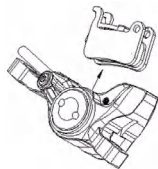
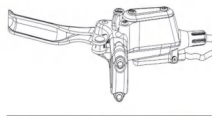

Figure 2-5 Removing/Assembling the Brake Pads and Accessories
Fig. 2-6 Brake oil reservoir is parallel to the ground
- ② Remove the wheel and take the pads out of the main front of the disc caliper (see Figure 2-5).
- ③ Clean the piston and its surroundings.
- ④ Set up the bicycle so that the disc brake oil reservoir is level with the ground, and then screw out the oil reservoir sealing screw (as shown in Figure 2-6).
- ⑤ Press the piston to the bottom position without deflecting or protruding the piston (please note that the oil in the oil reservoir may leak out).
- ⑥ Install the new replacement pads and reinstall the wheels.
- ⑦ Check that the brake lever is firmly in place by moving the lever several times.
- ⑧ Make sure there is no interference with the disc, and then secure the wheel.
- ⑨ Tighten the oil reservoir sealing screws, and then return the handlebar to its original riding position.
On the disc brake caliper body, refer to the brake pad replacement procedure (shown in Figure 2-5) when the piston action or projection on both sides is uneven or when the brake pad interferes with the disc.